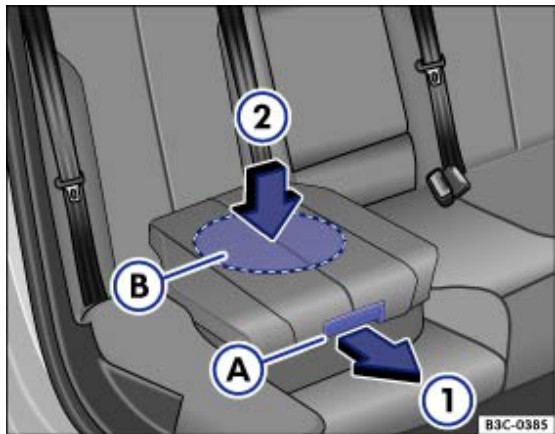

Fig. 85 Integrated child seat: folding back the seat cushion
- Using the release lever → Fig. 85 ①, pull the seat cushion forwards in the direction of the arrow ①.
- Press the *centre* of the seat cushion ② down in the direction of the arrow ② so that it engages securely → . The side restraints fold in automatically.
When folding up the integrated child seat, press only in the centre of the seat cushion → Fig. 85 ②. The seat cushion could otherwise become jammed and will not engage securely.